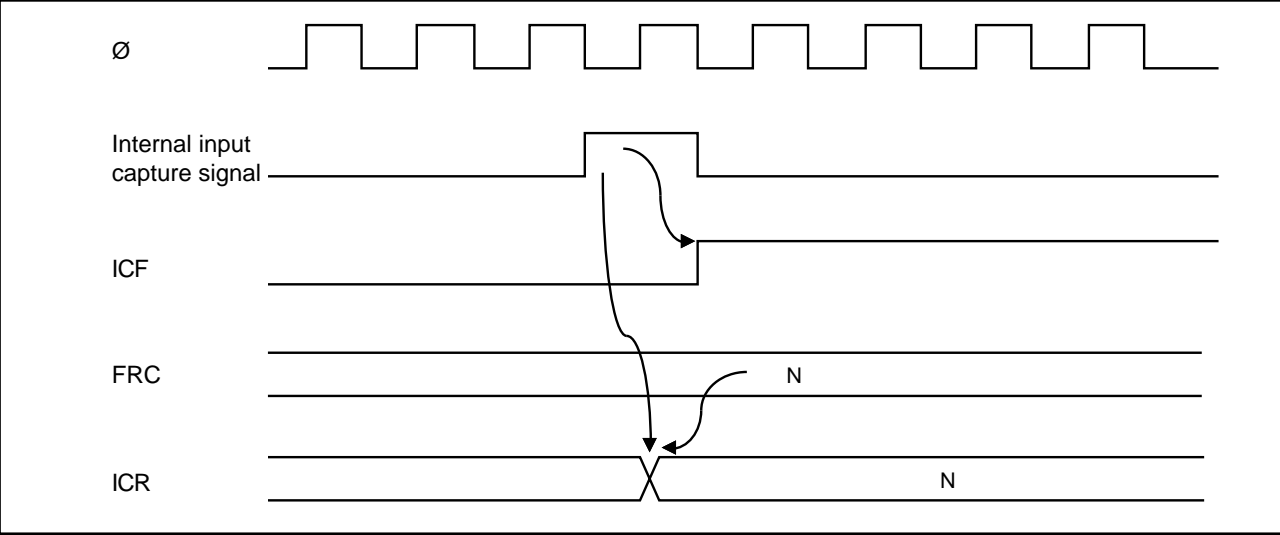

Figure 6-15. Setting of Input Capture Flag
(2) Timing of Input Capture Flag (ICF) Setting: The input capture flag ICF_x (x = A, B, C, D) is set to “1” by the internal input capture signal. Figure 6-15 shows the timing of this operation.